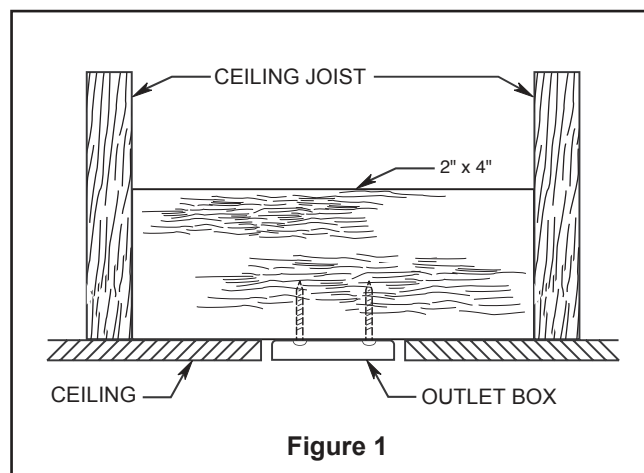
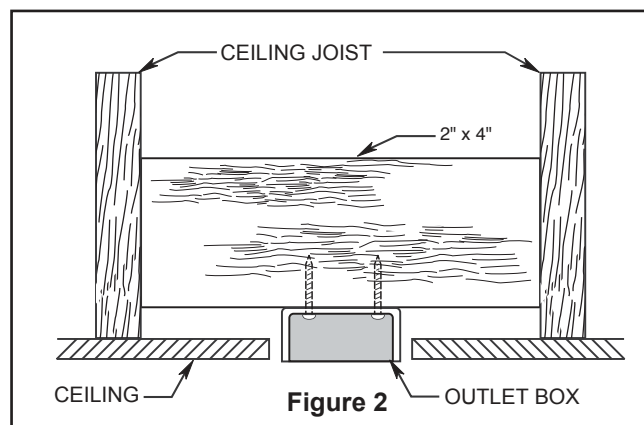
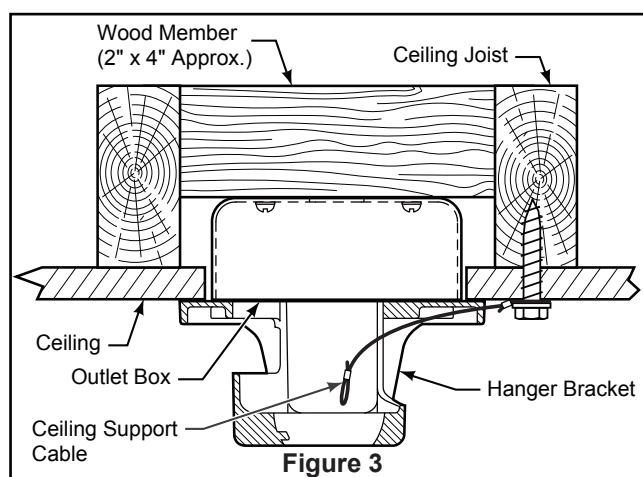

Figure 1
Figure 2
Figure 3
Your new ceiling fan will require a grounded electrical supply line of 120 volts AC, 60 HZ, 15 Amp Circuit. Electrical code requires use of a fan-rated outlet box to support the extra weight and motion associated with a ceiling fan. A fan-rated box will be labeled as such and typically supports up to a 70lb ceiling fan. Fan-Rated Outlet Boxes vary in ratings and design. Ensure the ratings of your ceiling fan outlet box meet the requirements for the ceiling fan being installed. Figure 1, Figure 2 and Figure 3 depicts different structural configurations that may be used for mounting the outlet box.
Low profile box (Figure 1)
Deep box (Figure 2)
Deep box with brace (Figure 3)
3. Loosen the two set screws and locking nuts in the downrod support of the motor assembly. Route the black, white, blue wires and safety cable through the downrod. (Figure 3)
1. Securely attach the hanger bracket to the outlet box using the outlet box screws and washers supplied with the outlet box. (Figure 3)
2. Drill a 1/4" pilot hole into the building structure to prevent splitting or cracking with installation of the lag bolt. Using the 3/8" x 2" lag bolt and flat washer, attach safety cable to ceiling joist or wood structural member. The lag bolt will pass through the flat washer, safety cable loop, and into the building structure. (Figure 3) **NOTE:** Ceiling support cable cannot be secured to outlet box only, it must be directly secured to ceiling joist or structural member using the 3/8" x 2" lag bolt and flat washer. (Figure 3)
2. Slide the receiver into the hanger bracket before wiring as shown in figure 3.
3. Assemble the light kit assembly to the adaptor plate of the motor assembly using the previously removed screws and securely tighten all three screws. (Figure 3)
3. To make fan operational, install 23A/12V battery (included) in hand-held remote transmitter, with fan power off. Then follow the remote code setting process. (If not used for long periods of time, remove battery to prevent damage to transmitter). Store the remote away from excessive heat or humidity. (Figure 3)